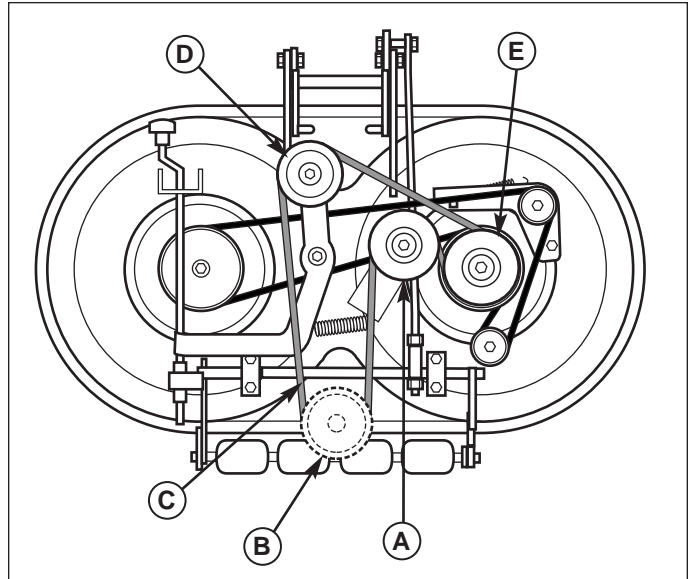

Figure 30. PTO Belt Replacement
3. Move the spring loaded lever to relieve tension on the PTO belt. Remove the PTO belt from the idler (D, Figure 30) and engine pulley (B).
4. Loosen the backside idler hardware and remove the belt from the backside idler pulley (A).
5. Install the new belt (C) as shown.
6. Tighten the backside idler (A) hardware.